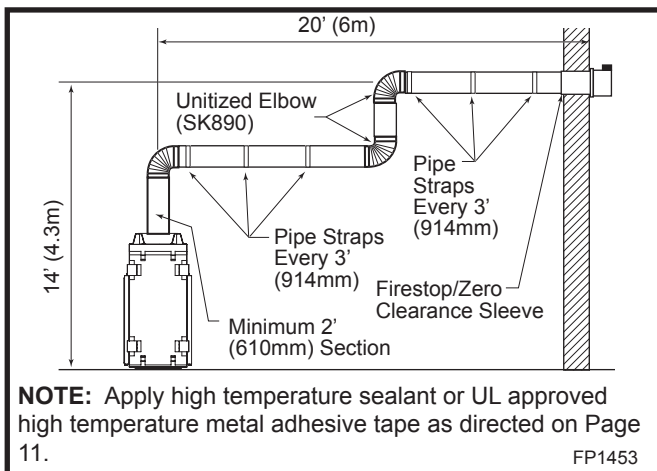

Fig. 15 Support straps for horizontal runs.
installed before any offset. A maximum of 20' (6.1 m) horizontal and three (3) 90° elbows may be installed with a minimum of 12' (3.66 m) vertical section above the flue collar of the unit. Refer to Page 13, Figure 15 for more information.